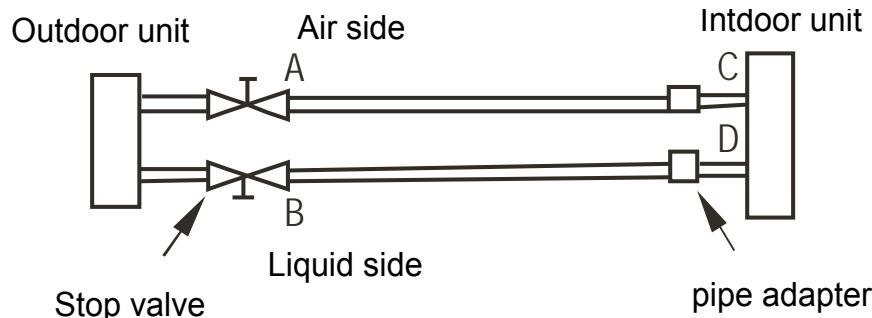

Fig 2-12
5.3.2 Use the refrigerant in the outdoor unit to expel air (Fig 2-12)